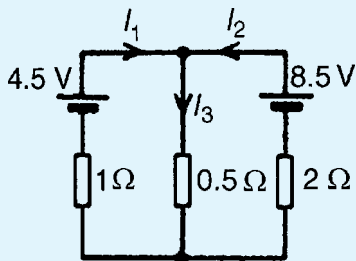

Figure 13.25
- 1. Use the superposition theorem to find currents  $I_1$ ,  $I_2$  and  $I_3$  of Fig. 13.25